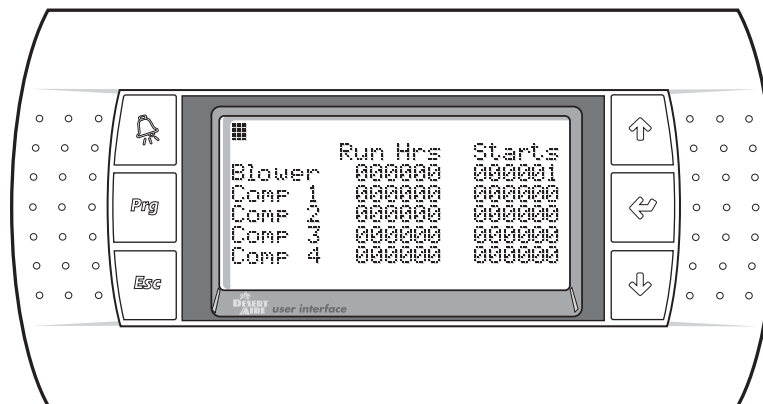

Figure 20
2.3.3. Starts & Run Times (Figure 20)